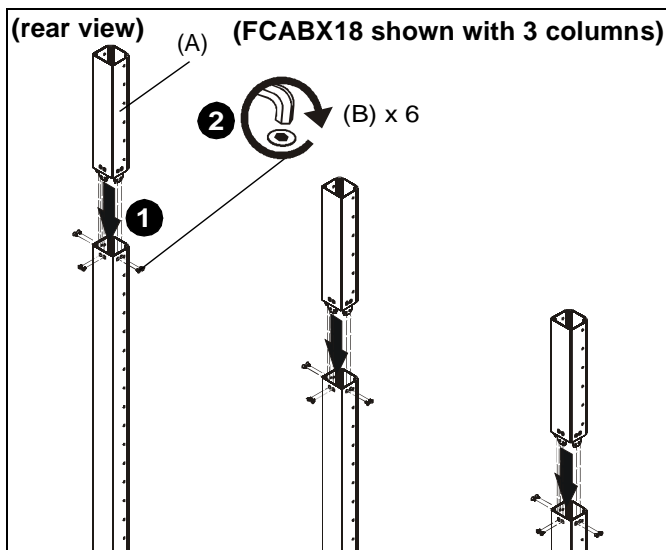

Figure 1
1. Insert one column add-on (A) to each column making sure holes are lined up on each side. (See Figure 1)
2. Use 5/32" hex key (C) and six 1/4-20 x 1/2" flat head cap screws (B) to secure each column add-on (A) to each column. (See Figure 1)